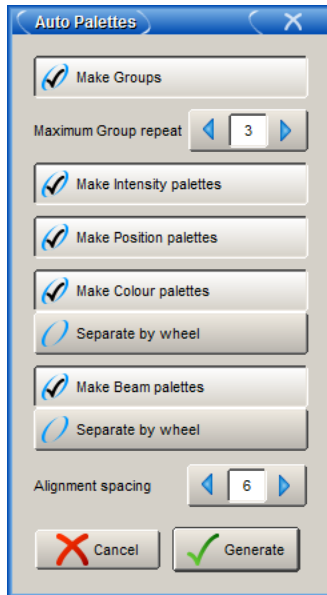

Figure 7.3. The Auto Palettes Window
1. Setup → Patch, Auto Palettes : the Auto Palettes window opens, giving a range of options; see *Figure 7.3, “The Auto Palettes Window”*.